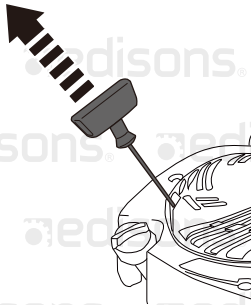

Fig. 11
2. Pull on the recoil starter handle (23) to start the engine (Fig. 11).